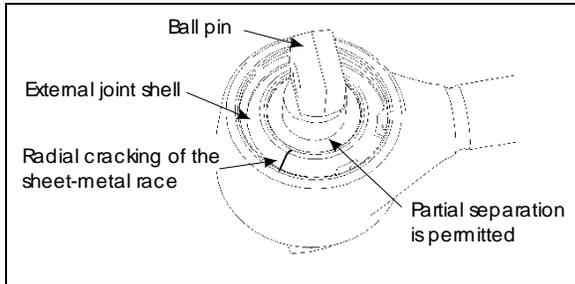

FIGURE 6: BALL JOINTS 16173
- Radial cracking of the external sheet-metal race. (fig. 6)